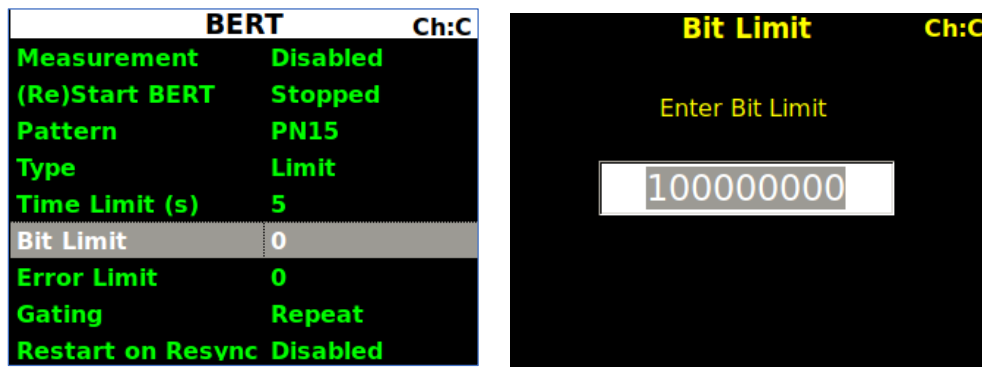

Figure 150: BERT, Bit Limit
- Bit Limit – Sets a specific number of total received bits, as shown in Figure 150; the measurement completes when the selected number of bits has been received